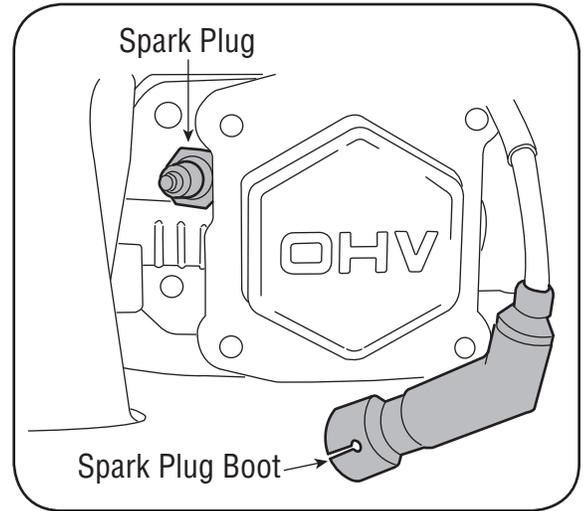

Figure 4-3
1. Remove the spark plug boot and use a spark plug wrench to remove the plug. See Figure 4-3.